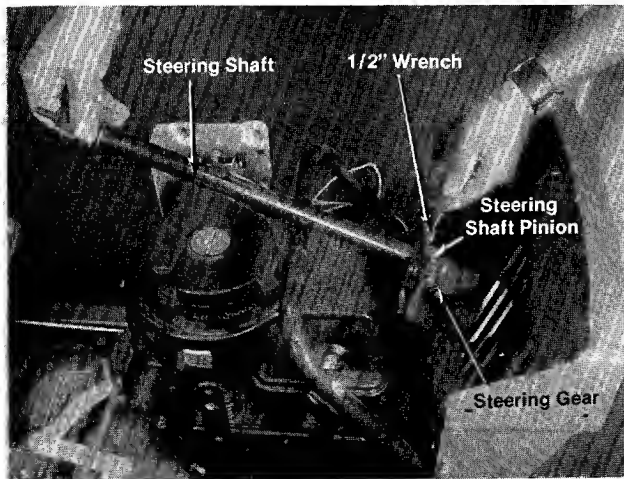

FIGURE 4.
1. Place steering shaft pinion in steering gear and fasten with two hex sems bolts. A $\frac{1}{2}$ " wrench is required. See figure 4.